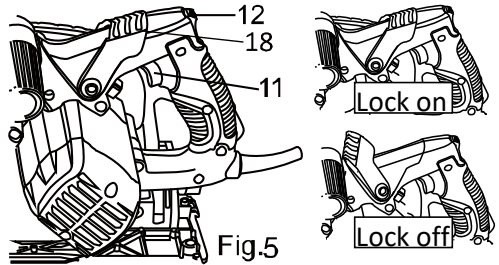

Fig.5
1. To turn the saw ON, push forward the plunge release (12), then squeeze the ON/OFF trigger switch (11) (Fig. 5).
NOTE: Please ensure the safety button (18) is in the 'lock on' position before starting the tool, otherwise, if the safety button is in the 'lock off' position the tool will not start. (Fig. 5)